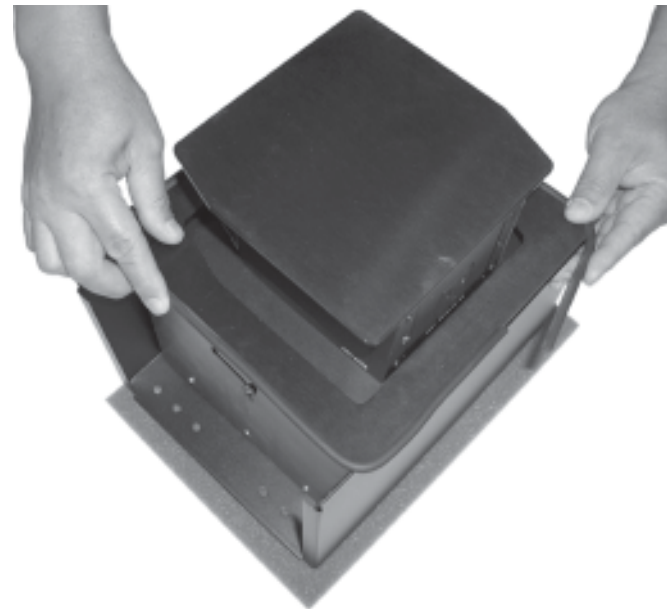

Figure B-4 — Installing protective strips
5. Install the rubber strips that protect the flanged edges of the top of the surface enclosure (figure B-4).